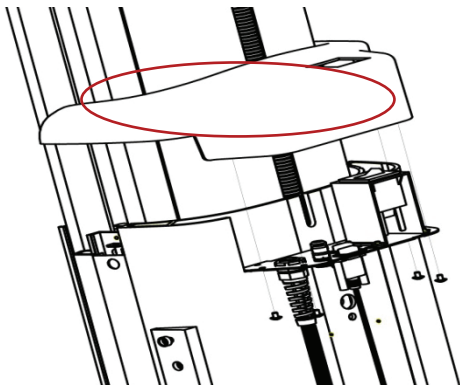

Figure 1
- Next fasten the Case column power (Accessory No. 06) using 4 truss bolts (M4\*8: Accessory No.20). (Figure 1)